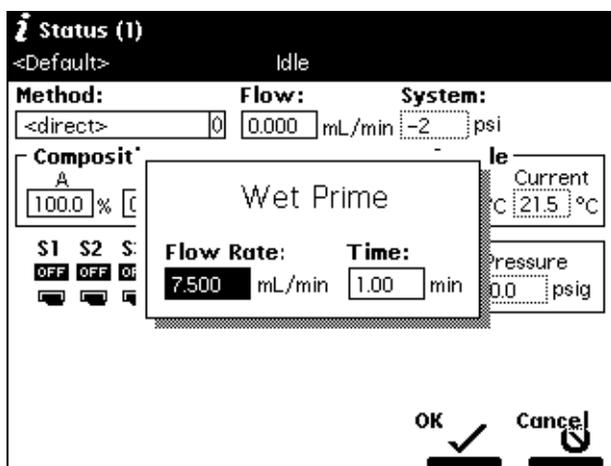

Figure 2-11 Wet Prime Dialog Box
3. Select the **Wet Prime** option, then press **Enter**. The Wet Prime dialog box appears (Figure 2-11).
4. Select **Wet Prime**, then press **Enter**. The Wet Prime dialog box appears (Figure 2-11).